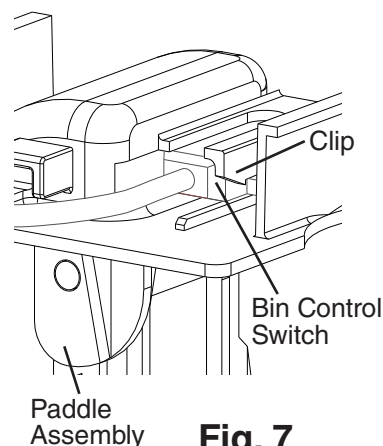

Fig. 7
- 5) Lift up slightly on the clip securing the bin control switch to the paddle assembly and slide the switch out. See Fig. 7.